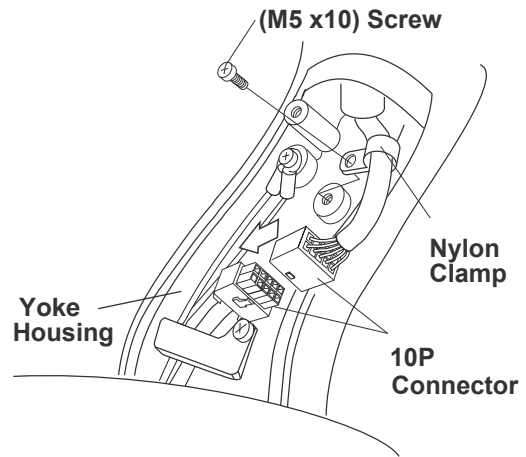

Fig.3-22 Connection 10P Connector in Yoke
6. Loosen the (M5 x 10mm) screw and remove the nylon cable clamp from the yoke housing. Place cable clamp on the balance arm cable. Connect the **10P** connectors, and then attach the balance arm cable to the yoke housing with the nylon cable clamp. (**Fig.3-22**)
7. Remove the (M5 x 10mm) screw from the ground terminal inside of the yoke housing. Secure the green ground wires from balance arm and head to the ground terminal with the (M5 x 10mm) screw. (**Fig.3-22**)